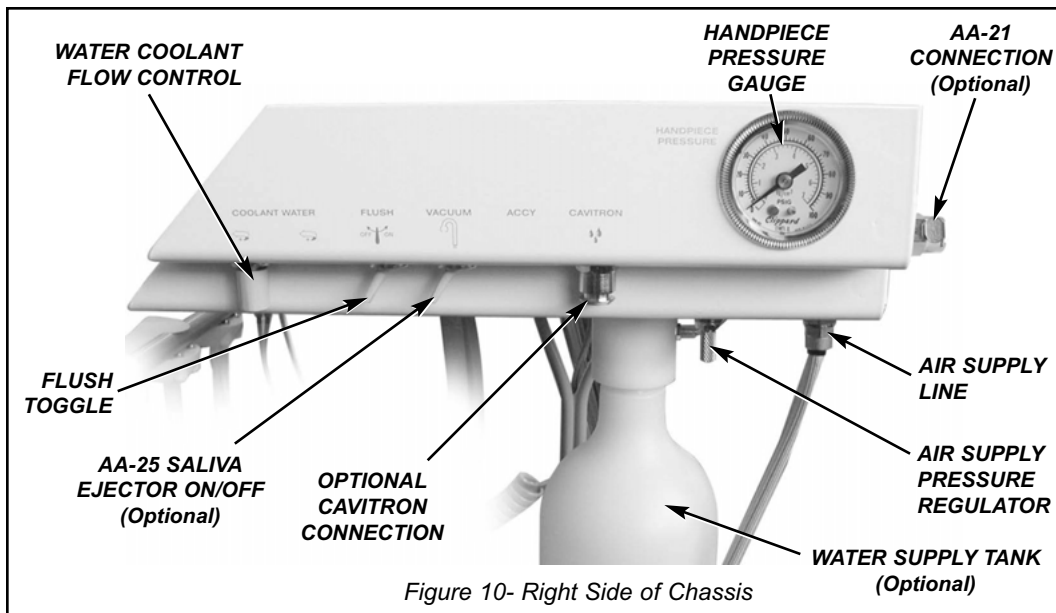

Figure 10- Right Side of Chassis
5. **PRESSURE GAUGE** (Fig. 10) - The pressure gauge on the right panel gives you a visual indication of the handpiece drive pressure.
6. **WATER COOLANT FLOW CONTROL** (Fig. 10) - Adjusts the flow of water coolant to the handpiece control.
7. **FLUSH TOGGLE** (Fig. 10) - The flush toggle located on the right side of the chassis allows you to quickly and completely flush your handpieces, washing away contaminants which may have accumulated in the handpiece and tubing. You should flush the handpieces for about 5 seconds after every patient, and about 20 seconds at the beginning of each day to reduce overnight bacterial accumulation which may have occurred.